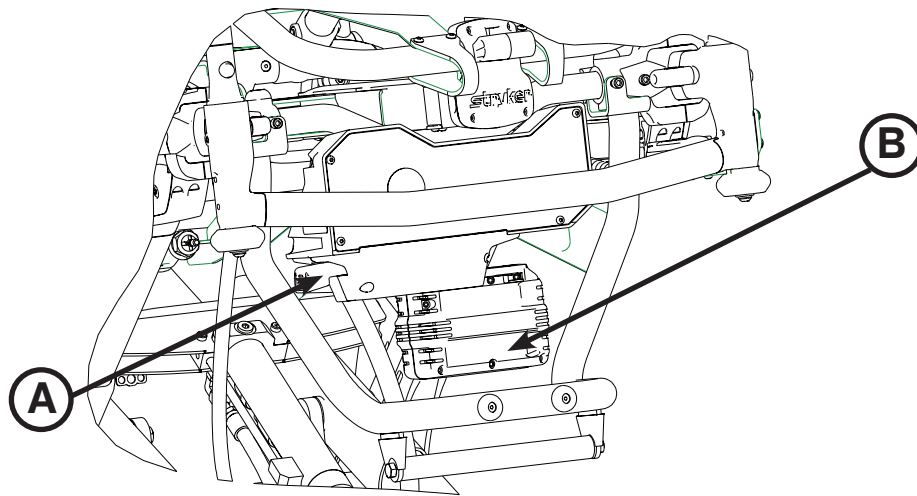

Figure 17: DeWALT® Battery Removal & Replacement
1. Press the red battery release button (A), located on the patient right side of the foot end control enclosure, to release the battery (B) from the cot as shown in Figure 17.